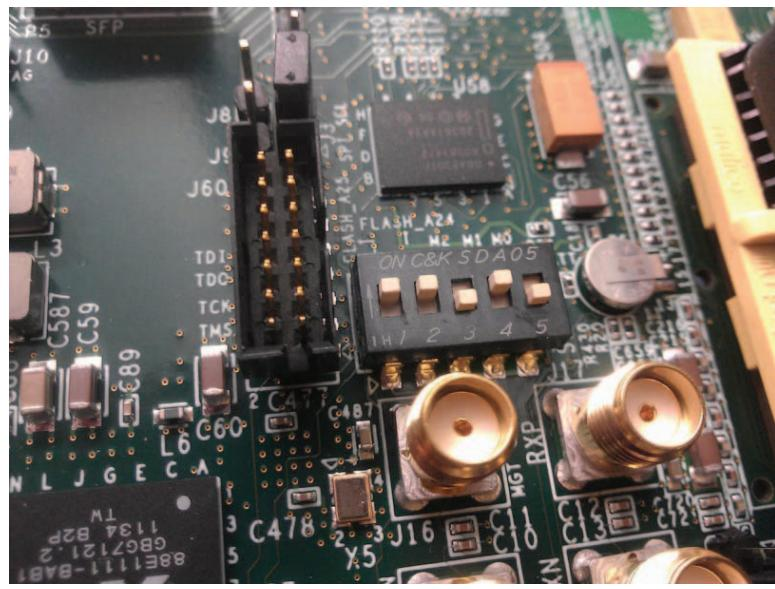

Figure 2: BIST Switch and Jumper Settings
2. Verify the switch and jumper settings are set as shown in Table 1 and Figure 2.